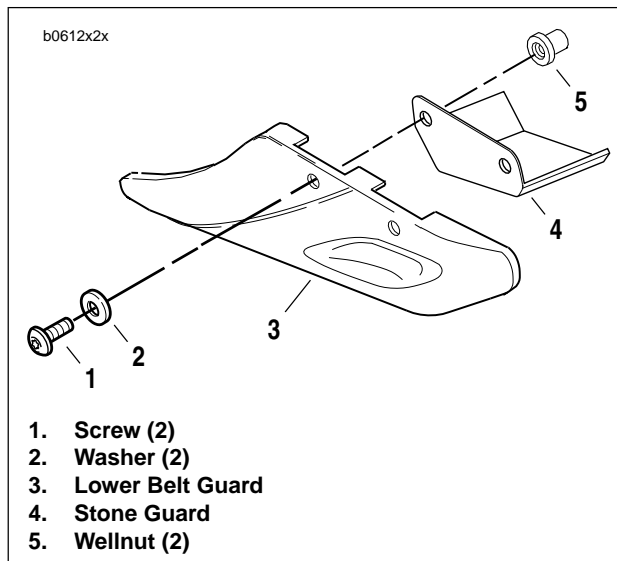

Figure 2-97. Stone Guard
1. See Figure 2-97. Remove two screws (1) and washers (2) securing lower belt guard (3) to swing arm.
2. Remove lower belt guard (3), stone guard (4) and well-nuts (5) from swing arm.
1. See Figure 2-97. Position stone guard (4) with wellnuts (5) and lower belt guard (3) on swing arm.
2. Secure with two screws (1) and washers (2).